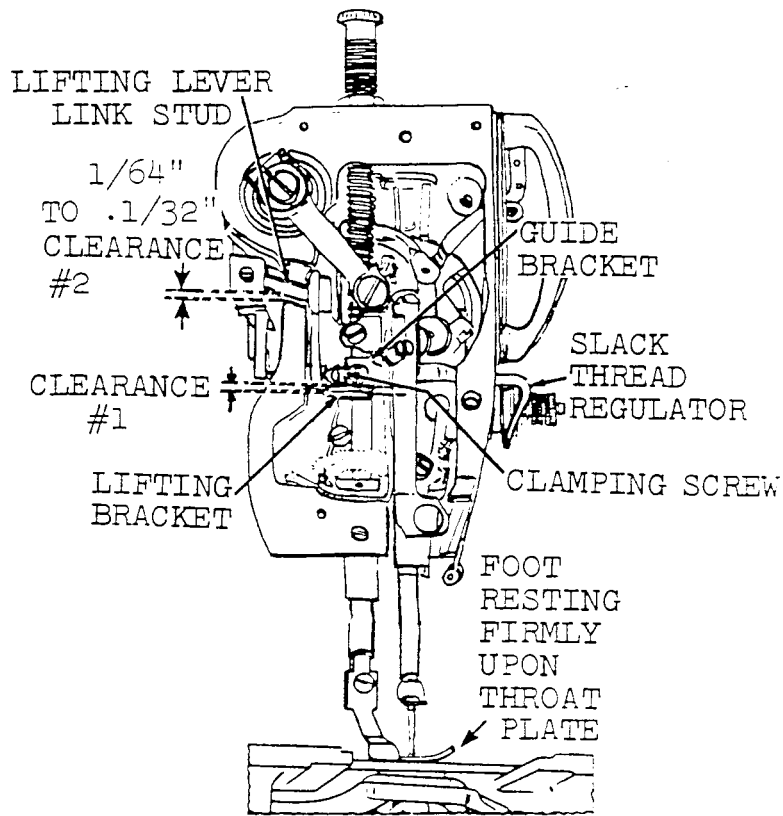

Fig. 28. Checking Height of Presser Bar
Face plate need not be removed for this adjustment. It is removed in Figs. 28 and 29 to show relationship of parts.
1. When presser foot rests firmly upon throat plate (with feed dog below throat plate) there should still be some clearance between guide bracket and lifting bracket, as shown at #1 in Fig. 28.
2. At the same time, when presser foot rests firmly upon throat plate, clearance between lifting lever link stud and lower surface of recess (provided for it, in machine casting) should be $\frac{1}{64}$ inch to $\frac{1}{32}$ inch, as shown at #2 in Fig. 28.
Remove large plug from face plate with screwdriver and loosen clamping screw shown in Fig. 28.